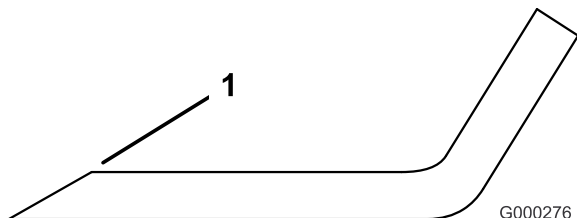

Figure 79
1. Use a file to sharpen the cutting edge at both ends of the blade (Figure 79).